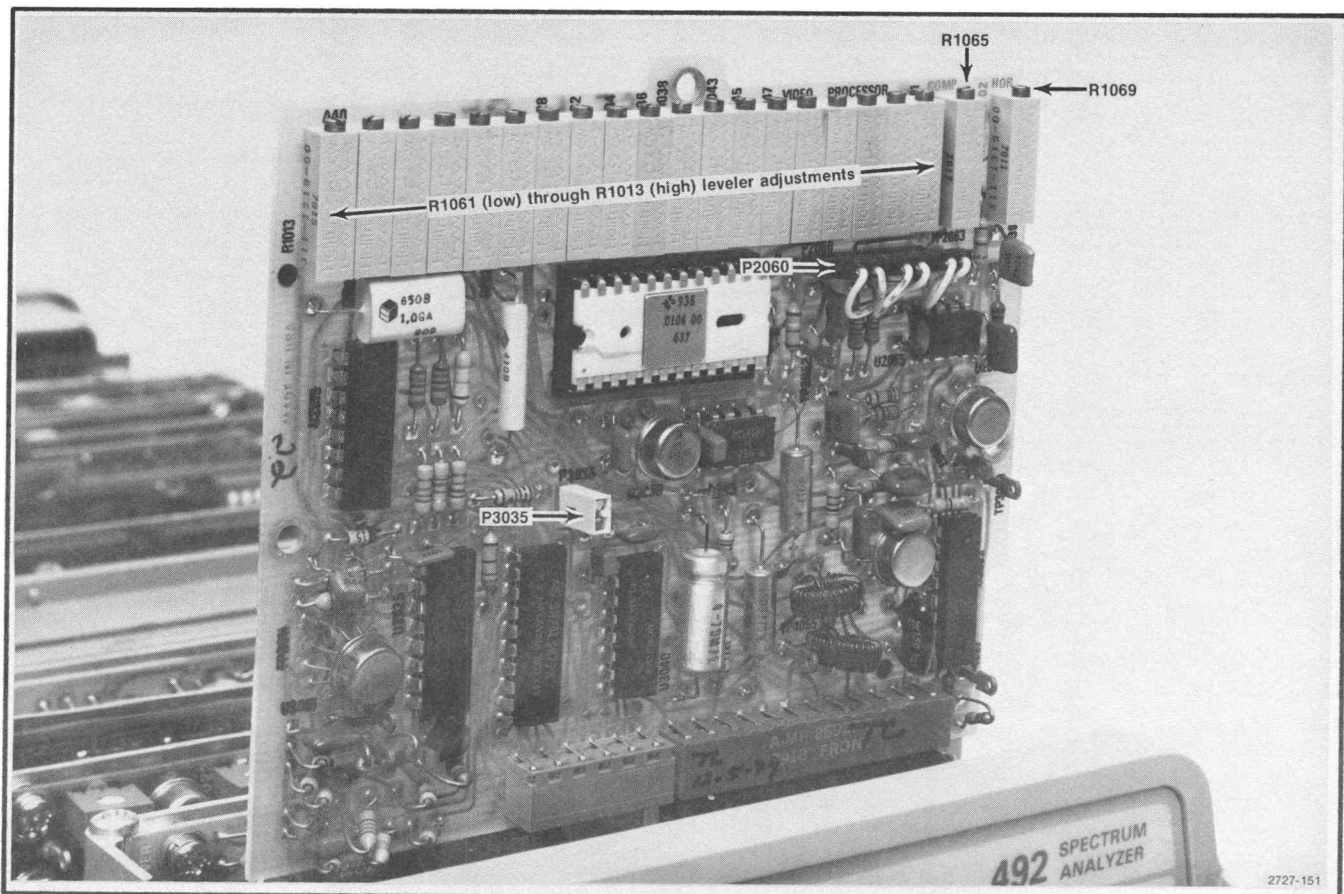

Fig. 3-36. Adjustments and test points on the Video Processor board.
c. Pull Leveler Disable plug (P3035) on the Video Processor board (see Fig. 3-36).
m. Unplug P2060 (Fig. 3-36) and move it from Normal to Invert mode (one pin to the left). Replace Leveler Disable plug P3035.
n. Start with R1061 and adjust the leveling potentiometers sequentially, from R1061 through R1013, so the contour of the baseline is an average of the SAVE A display. In the process use Horiz adjust R1069 (Fig. 3-36) to shift the baseline to the right or left so the baseline aligns with the average contour of SAVE A display.